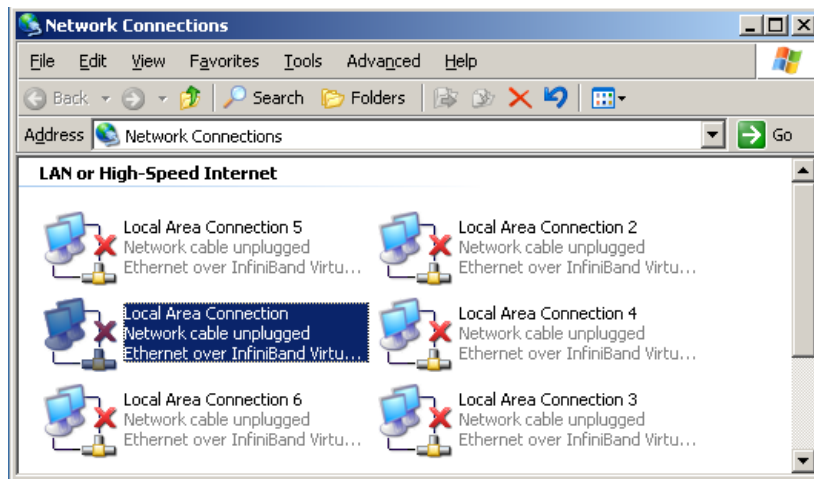

Figure 4-46 Virtual NICs in Windows Network Connections
- Make an Ethernet connection from the bridge to a test or other network. Inside Network Connections, you see six Local Area Connections, one for each virtual NIC, as shown in Figure 4-46.